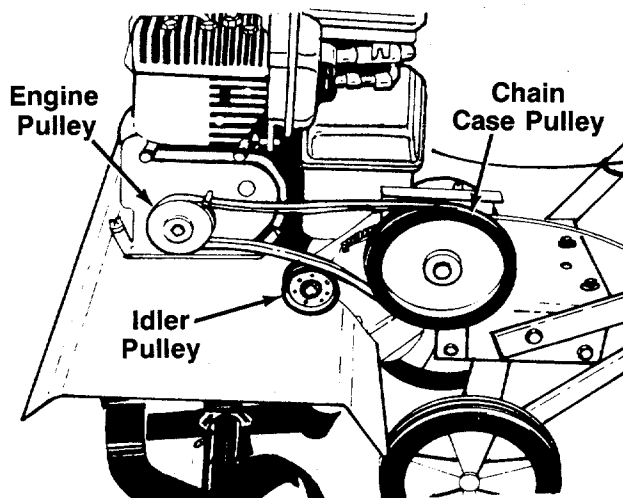

FIGURE 25.
3. Slip the belt off the chain case pulley first, then off idler pulley. Remove belt from engine pulley. See figure 25.
4. To reassemble the new belt, first place belt over engine pulley. Be sure belt is inside two pins at engine pulley. See figure 25.